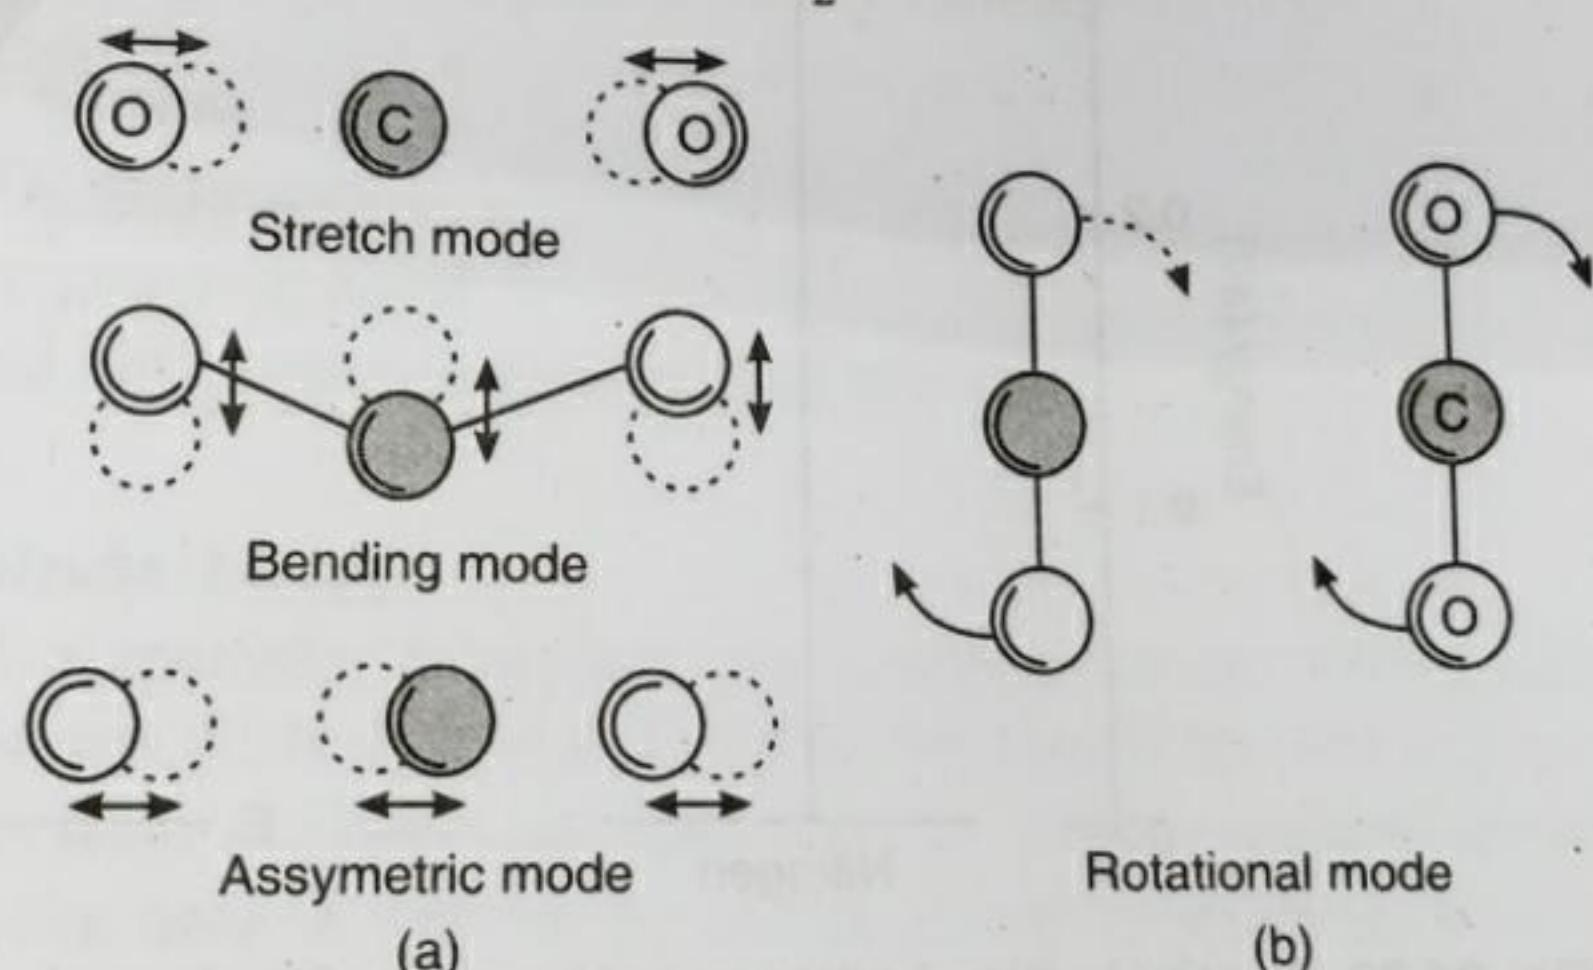

Fig. 24.22. Vibrational modes of a CO2 molecule
Fig. 24.22 shows the vibrational modes and rotations of CO2 molecule.
- It undergoes three independent vibrational oscillations known as the **vibrational modes** (Fig. 24.22). These vibrational degrees of freedom are quantized. At any one time, a CO2 molecule can vibrate in a linear combination of three fundamental modes.
- These numbers represent the amount of energy associated with each mode. For example, the number (020) indicates that the molecule in this energy state is in the pure bending mode with two units of energy.